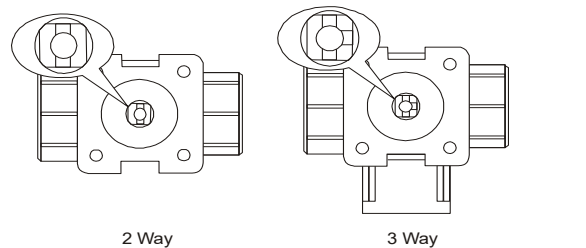

Figure 10: Positioning the valve stem
1. Turn the valve stem to the position outlined in Figure 10.